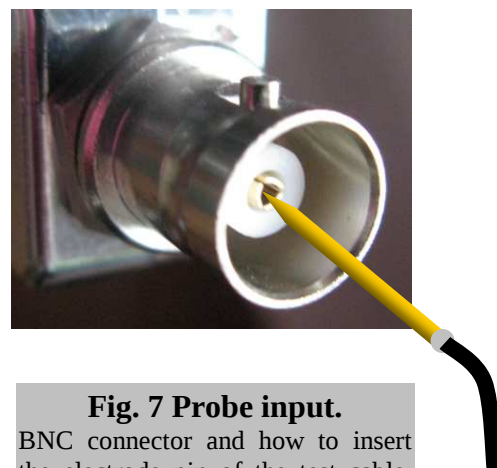

Fig. 7 Probe input.
2. Carefully (see **WARNING** on p. 7.) insert the brass pin at the other end of the test cable into the BNC connector, i.e. the input of the ch1 probe (Fig. 7).
Environmental noise comes from the local electricity grid and depends on the location of and distance to 110 or 220 Volt (AC) power lines and cables to the probe input (Fig. 7). When the probe inputs are open (no wires inserted) it will be lower than when an insect electrode is inserted (with or without insect). This noise will be reduced (shielded) by the Faraday cage, which should be ‘grounded’ to one of the Giga ground (black banana plug) sockets. If the front side of the Faraday cage is open, close it to see the effect. It may be reduced by moving any power cords from the Faraday cage vicinity (of an open front, especially) and proper cage shielding and grounding. As an open front is often convenient, move the mounted probes as far as possible to the cage back side.
- Faraday cage and Giga should be connected by using the alligator clip of the ground cable. If the signal is noisy, check – by using a multimeter (Ohm range) – for low resistance (about 0 Ohm) between the cages faces (bottom too), and the Giga (ground socket), the probe’s BNC input connector outer surface (Fig. 7), the mounting rod, chemical stands. Contact one lead of the multimeter should touch one part and the other lead another part (some multimeters beep in case of good contact; ask a technician if you are not familiar).